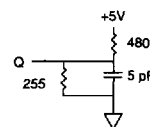

Fig. 2 OUTPUT LOAD EQUIVALENT
- ¹HZCE, ¹HZOE and ¹HZWE are specified with CL = 5 pF as in Fig. 2. Transition is measured ± 500mV typical from steady state voltage, allowing for actual tester RC time constant.